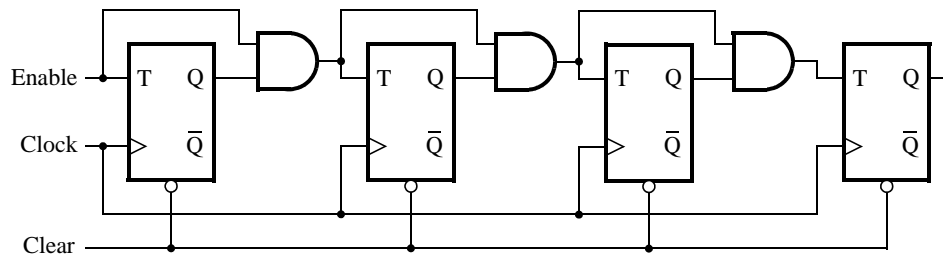

Figure 1: A 4-bit counter.
Consider the circuit in Figure 1. It is a 4-bit synchronous counter which uses four T-type flip-flops. The counter increments its value on each positive edge of the clock signal if the *Enable* signal is high. The counter is reset to 0 on the next positive clock edge if the synchronous *Clear* input is low. You are to implement an 8-bit counter of this type.
1. Write a VHDL file that defines an 8-bit counter by using the structure depicted in Figure 1. Your code should include a T flip-flop entity that is instantiated eight times to create the counter. Compile the circuit. How many logic elements (LEs) are used to implement your circuit?
5. Implement a four-bit version of your circuit and use the Quartus® RTL Viewer to see how the Quartus software synthesized the circuit. What are the differences in comparison with Figure 1?